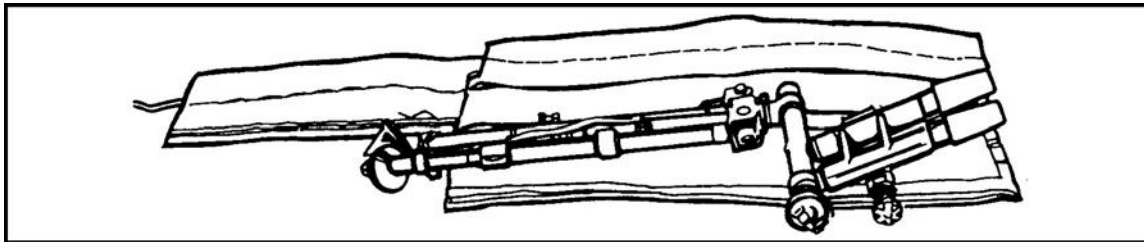

Figure 12-21. Bipod with case.
b. **Assistant Gunner.** Place the bipod assembly inside the case (Figures 12-21 and 12-22, page 12-26), ensuring that the traversing mechanism is in the middle of the case.